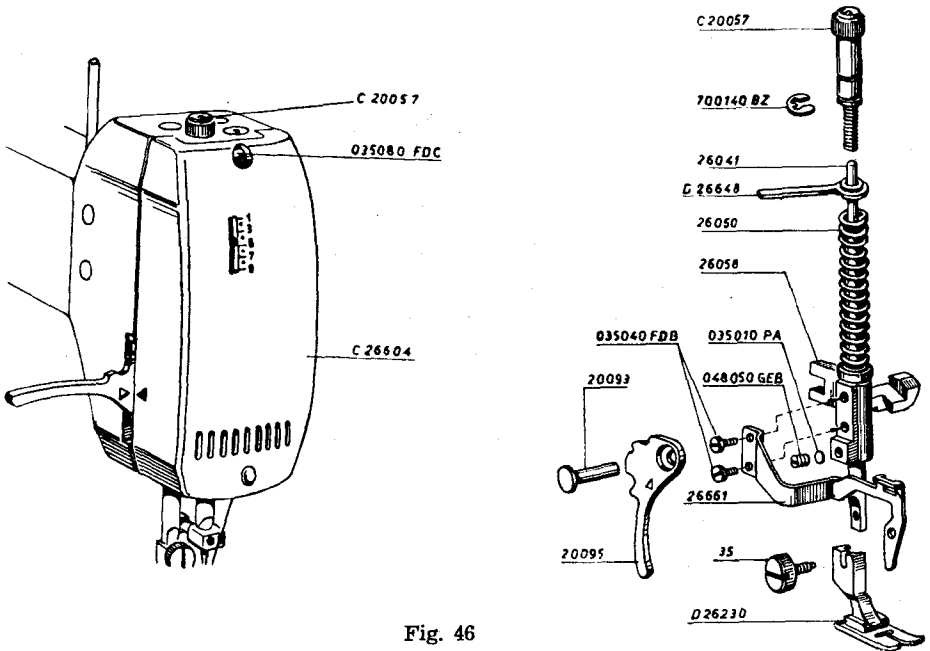

Fig. 46
The pressure is controlled with the aid of the pressure regulating thumb screw No. C 20057 (see Fig. 46).
- a. Loosen the presser bar screw No. 048050 GEB slightly in the presser bar guide No. 26058 (see Fig. 46).
The presser bar lever No. 20095 (see Fig. 46) permits three different positions of the presser foot:
### ***2. The presser bar lever is partially raised*** (see Fig. 46).